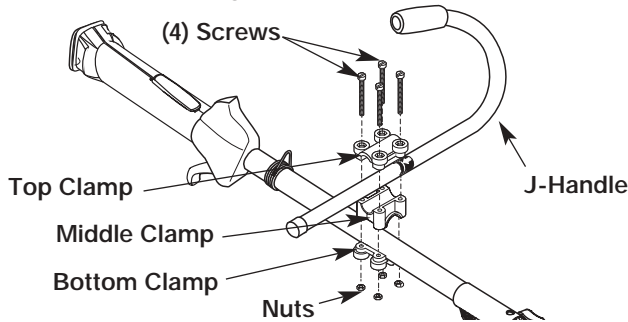

Fig. 2
1. Place the J-handle between the top and middle clamp pieces (Fig. 2).